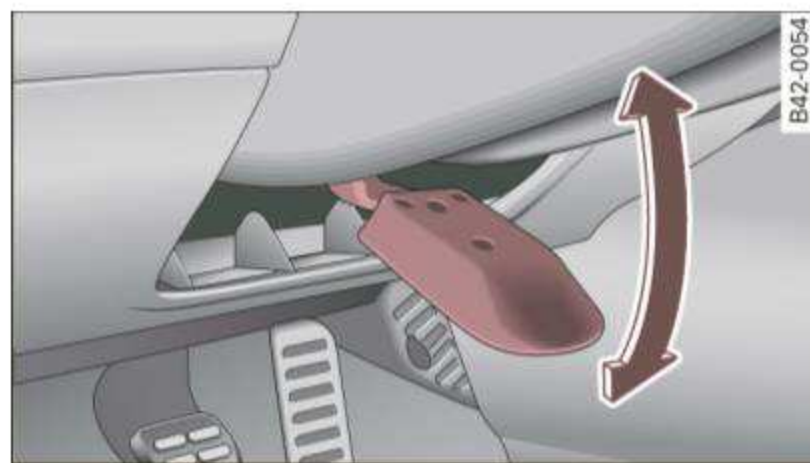

Fig. 62 Lever under the steering column
- Push the lever ⇒ fig. 62 down ⇒ ⚠.